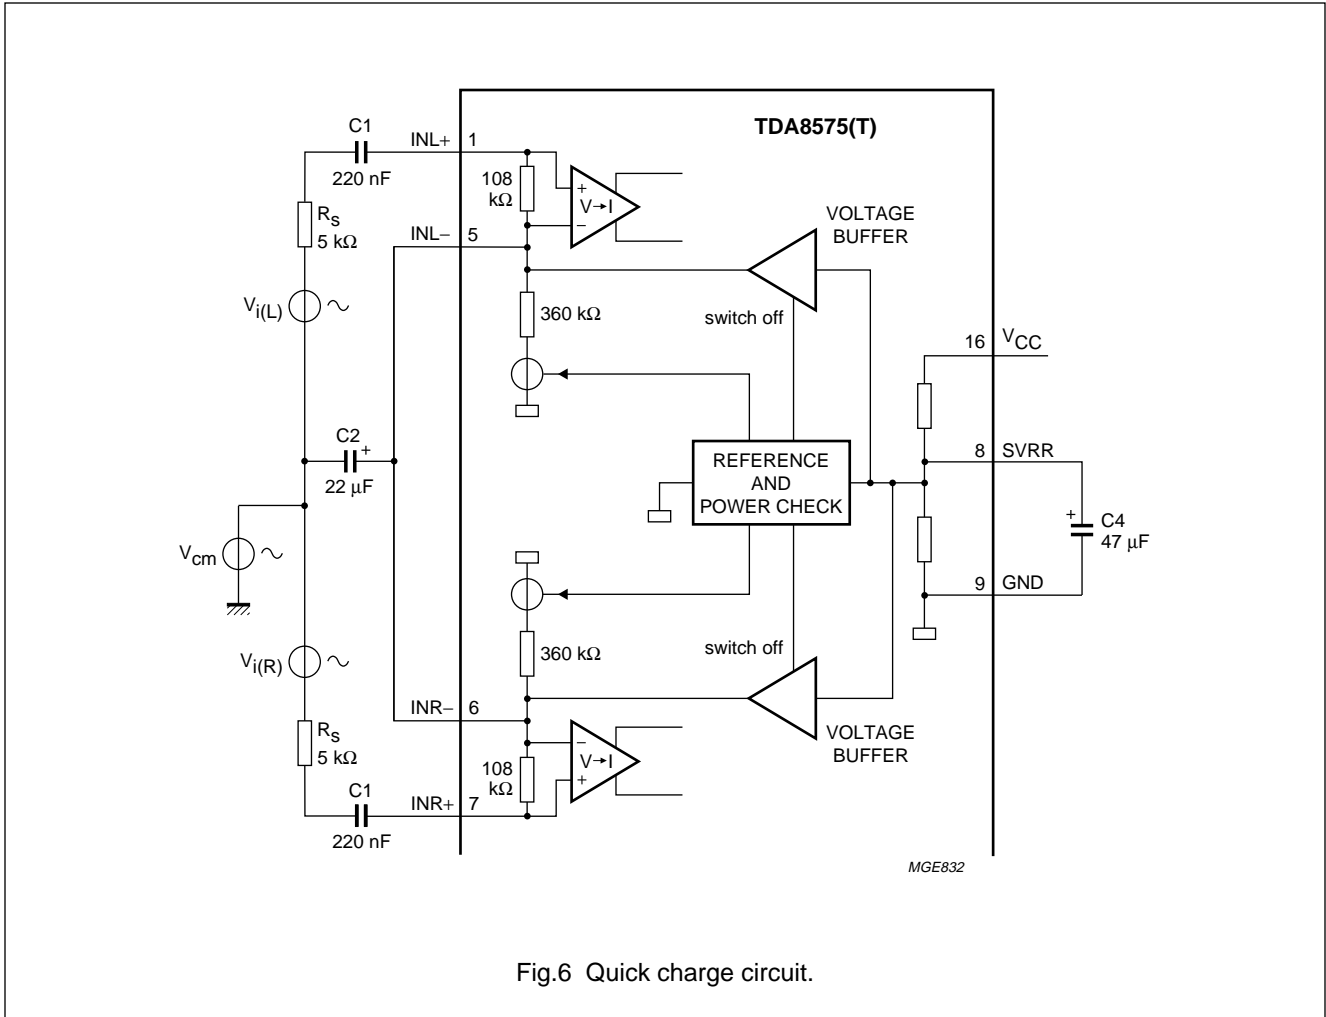

Fig.6 Quick charge circuit.
In Fig.6 the preferred input capacitor values are shown. If the capacitor $C2 = 22 \mu F$ connected to the IN- inputs had to be charged by the $0.5V_{CC}$ voltage source a charge time of $5\tau = 5 \times \frac{360 \text{ k}\Omega}{2} \times 22 \mu F = 20s$ would be required.
This is inconvenient for most applications and therefore the TDA8575(T) is equipped with a quick charge circuit. On power-on the quick charge circuit charges the capacitor C2 connected to the IN- pins. The quick charge circuit consists of a voltage buffer and a control circuit (referred to as 'reference and power check' in Fig.6) that monitors the supply voltage V_{CC} . If the supply voltage rises more than $\approx 2 \text{ V}$ the voltage buffer is switched on. After charging C2 the voltage buffer is switched off. The charge time of C2 will equal the charge time of C4, the SVRR capacitor.